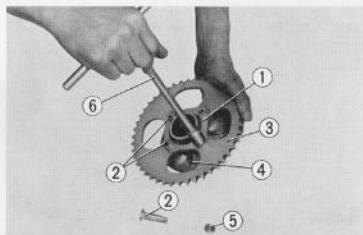

Fig. 4.96 Removing sprocket
9. Draw out the rear axle sleeve from the final driven flange, unlock the 8 mm tongued washer ① and remove the driven sprocket setting bolt ②. Disassemble the final driven sprocket ③ and final drive flange ④. (Fig. 4.96)